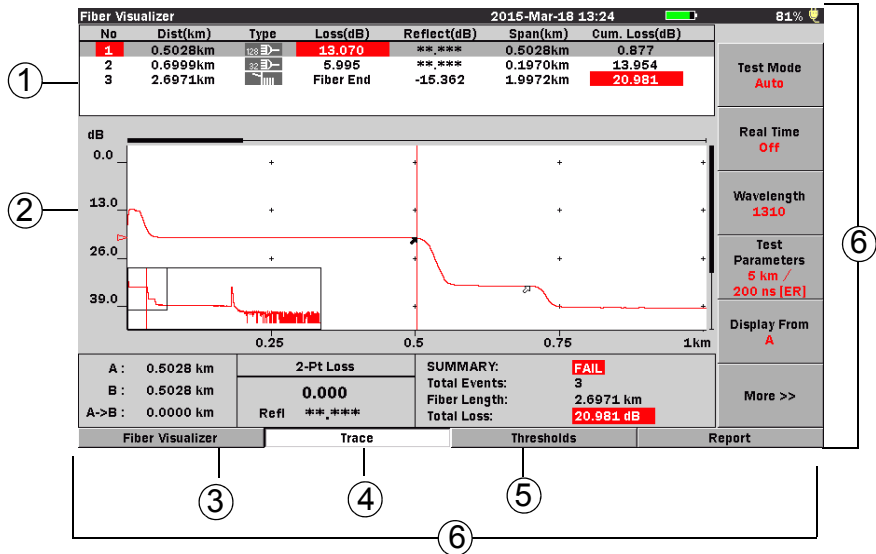

Figure 5-11: Trace screen
The Cursor Distance information (see item 3 in Figure 5-11 on page 5-22) displays the following:
The Loss Mode, Measurement, and Reflectance area (see item 4 in Figure 5-11 on page 5-22) displays the following:
The Fiber Test Parameters area (see item 5 in Figure 5-11 on page 5-22) displays the Wavelength (WL), Distance Range (DR), Pulsewidth (PW), Index of Refraction (IOR), Resolution (RES), and Averaging mode (AVG) set for the current test. The **Test Progress** bar indicates the current averaging status. See item 5 in Figure 4-10 on page 4-29.